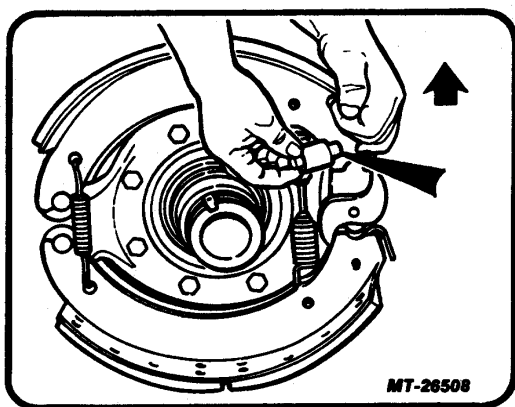

Fig. 13 Removing Upper Cam Roller
- Lift top shoe and remove the remaining cam roller assembly (Fig. 13).